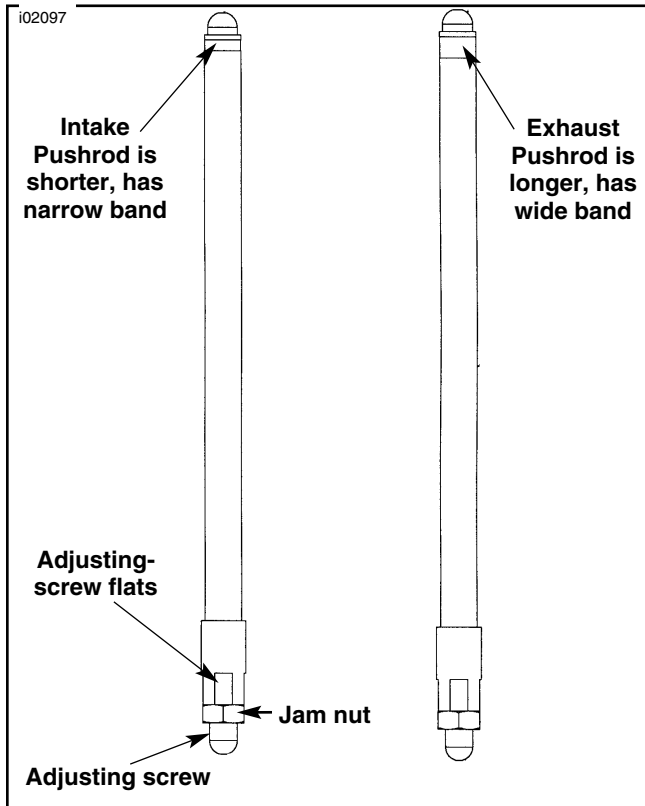

Figure 4. Adjustable Push Rod
4. See Figure 4. Loosen the jam nut on all of the pushrods and adjust the pushrods to their shortest length.
See Figures 4 and 5. Install the narrow-band pushrods in the cylinder-intake location. Install the wide-band pushrods in the cylinder-exhaust location.
8. See Figure 4. Adjust each pushrod length to zero clearance.
11. See Figure 4. Adjust each pushrod length to zero clearance. The pushrod must turn with no drag and no vertical play.